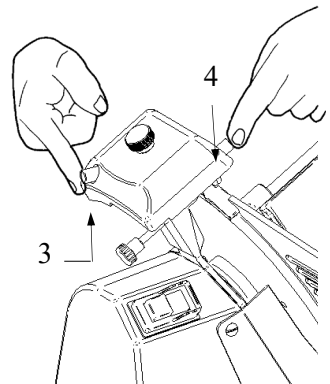

FIG. no. 9c
- 6 Push buttons simultaneously for 3 to 4 seconds (3 and 4) and then let go of them simultaneously (see FIG. no. 9c);